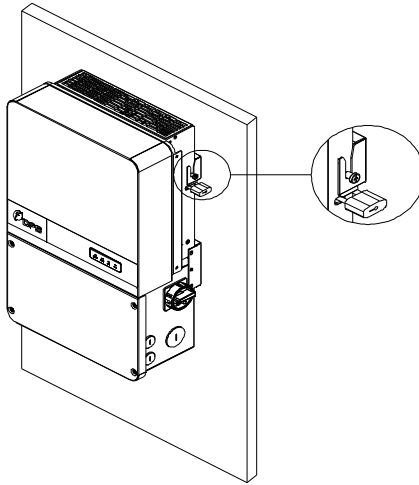

Figure 3-11 Location of the Anti-Theft Padlock
6. Optional - Install an anti-theft padlock when the installation is complete. The anti-theft padlock is used to prevent the inverter from being stolen when the equipment is installed outdoors. The inverter may be locked to the bracket, as shown in Figure 3-11: